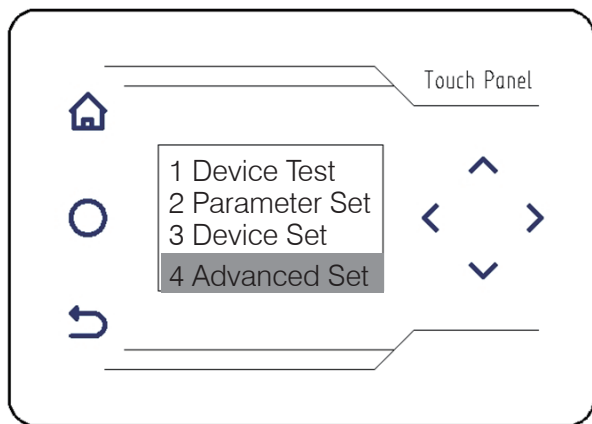
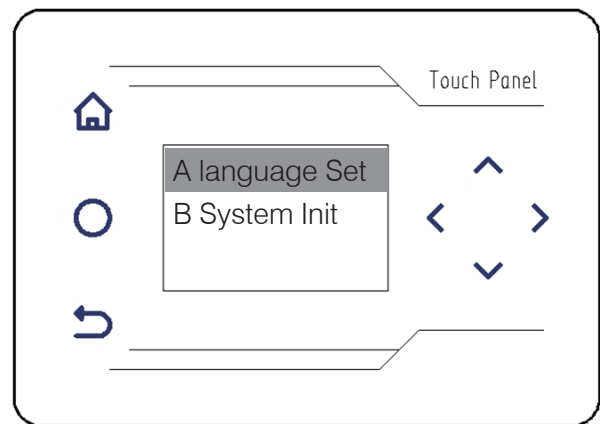

figure 43
figure 44
Press,  $\wedge$ 、 $\vee$  add/subtract, to select "advanced Settings" (figure 43), press the  $\rightarrow$  right button, to enter the sub-menu interface. (figure 44)
A. Language setting (figure 44)
Under the sub-menu interface of "advanced Settings", press,  $\wedge$ 、 $\vee$  add/subtract, select "initialization system" (figure 43), press the  $\rightarrow$  right button, and the system will restore the factory Settings, namely "initialization system".